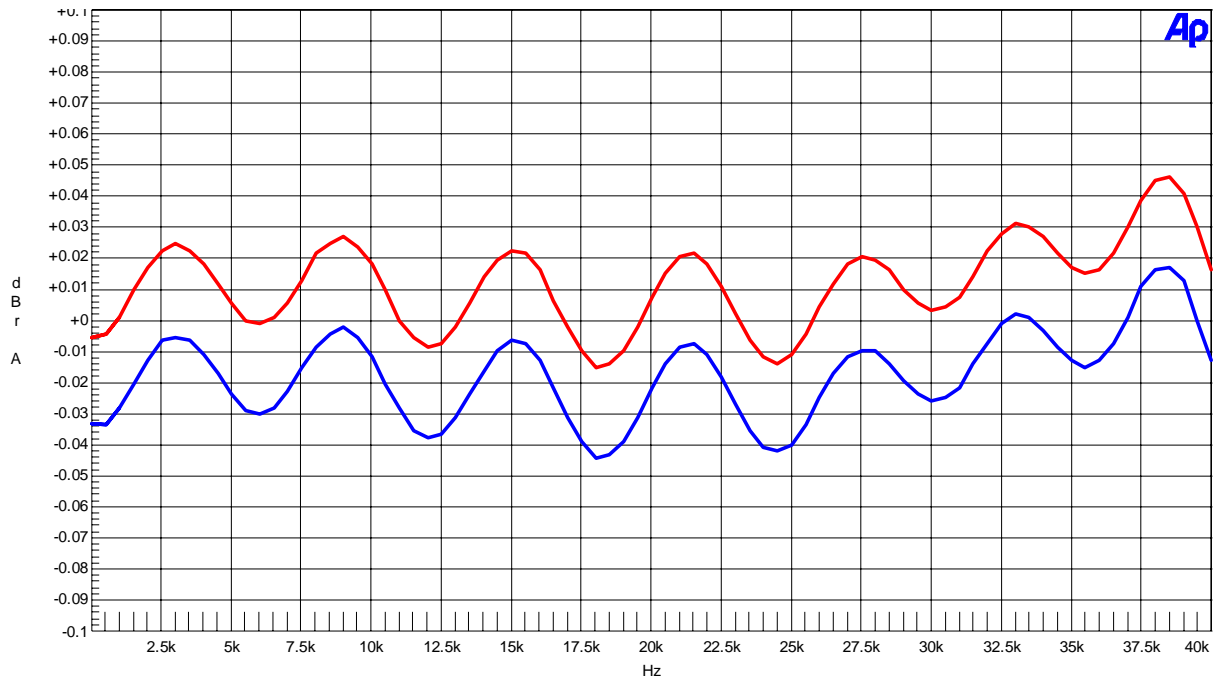

Figure 25. Frequency Response AOUTL Pin / AOUTR Pin (Input Level=0dBFS)
- Figure 25. Frequency Response (Input Level=0dBFS)